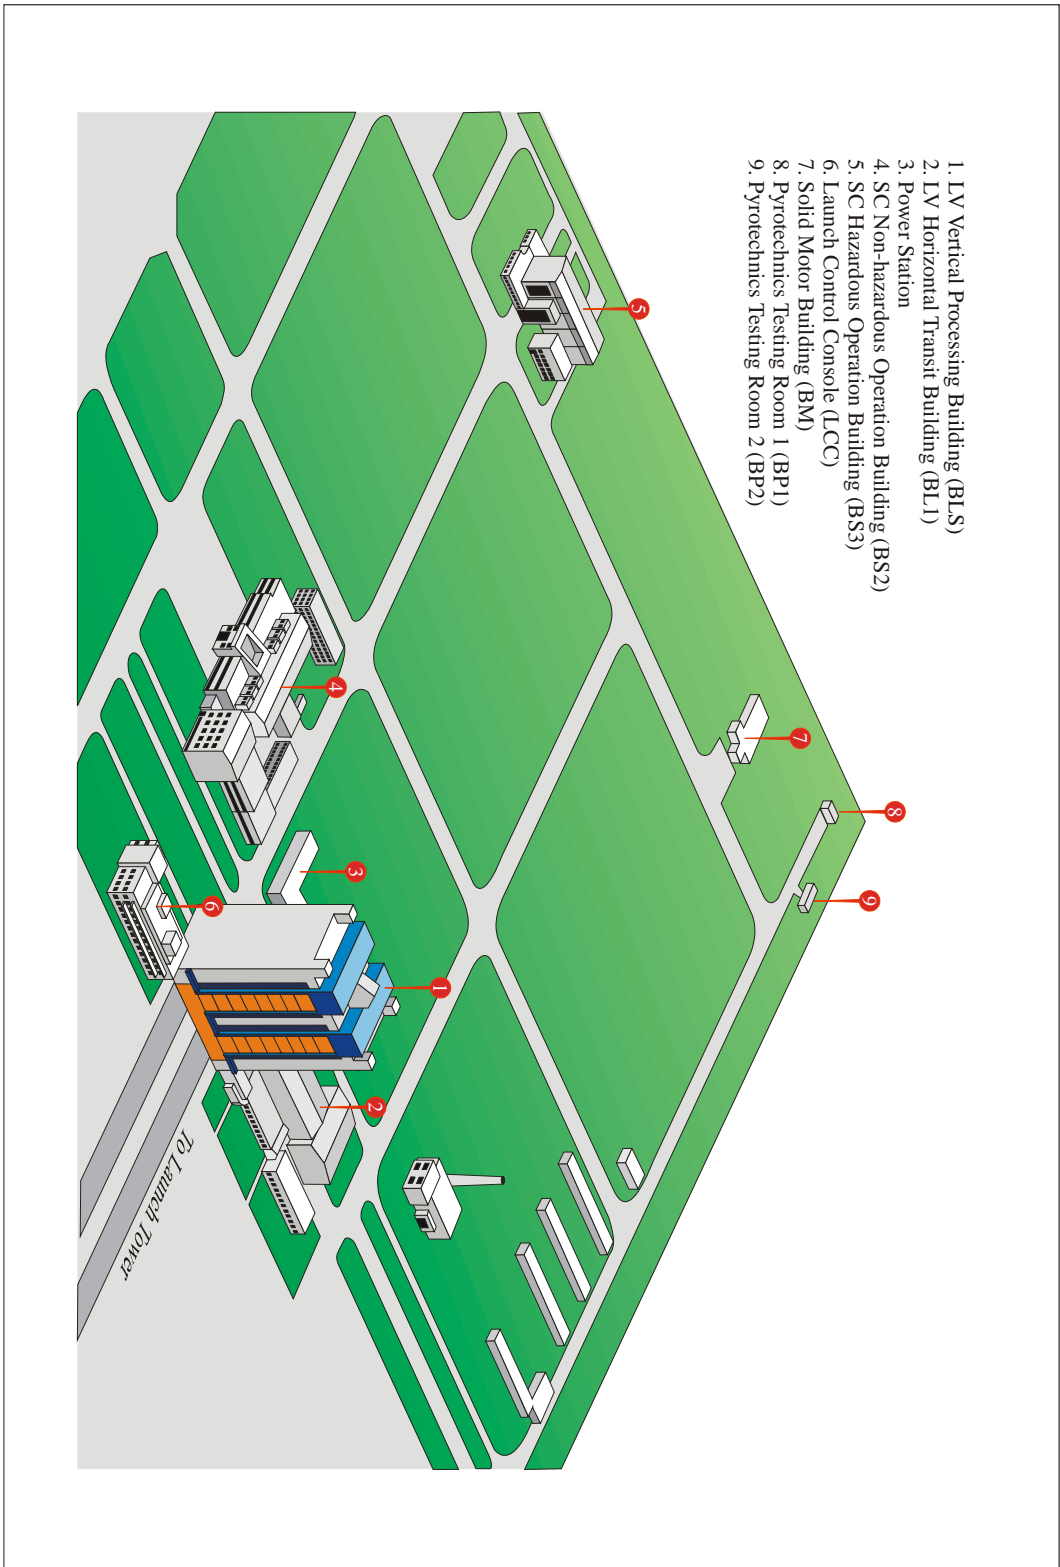

Figure B7-1 South Technical Center
South Technical Center includes LV Vertical Processing Building (BLS), LV Horizontal Transit Building (BL1), SC Non-hazardous Operation Building (BS2), SC Hazardous Operation Building (BS3), Solid Rocket Motor (SRM) Checkout and Processing Building (BM) and Pyrotechnic Storage and Processing Building (BP1, BP2). The LV and the SC will be processed, tested, checked, assembled and stored in South Technical Center. Refer to **Figure B7-1**.